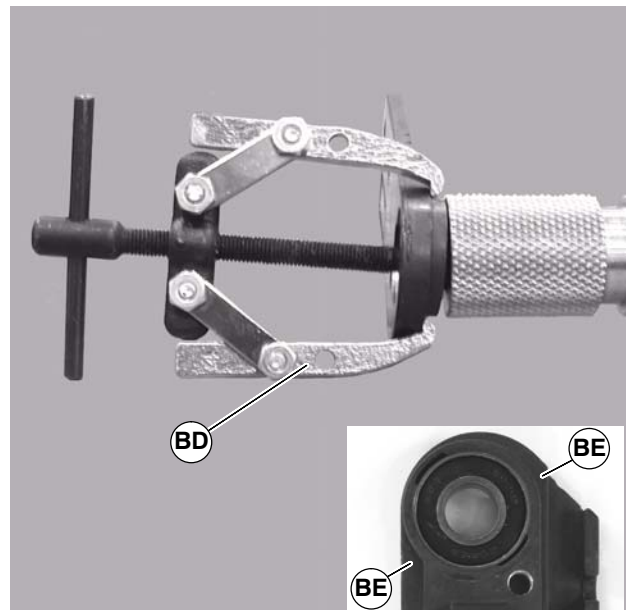

Figure 37
4. With bearing removal tool, (BD of Figure 37), part number 807-1078, remove head plate from stub-shaft. Connect tool jaws at indicated points (BE).